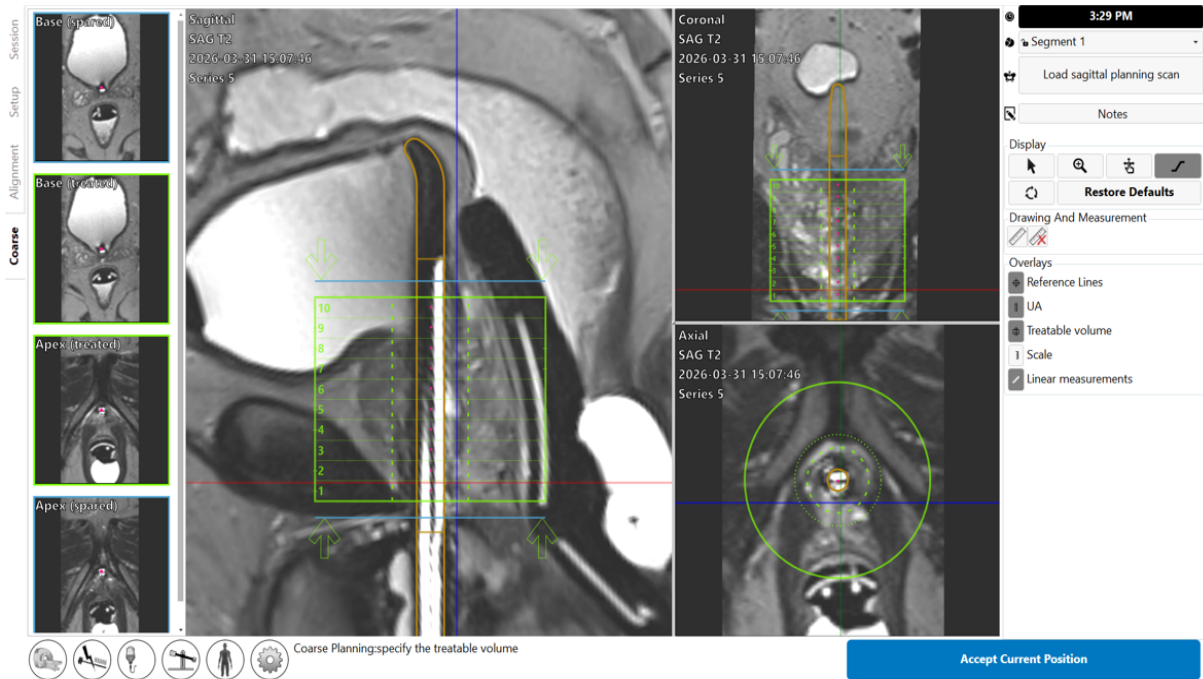

Figure 35: Coarse Planning workspace in TDC software
**Radiologist:** The treatable volume is displayed as a green rectangle on the sagittal and coronal views and a green circle in the axial view. Regions beyond the light blue line, displayed 4 mm from the bottom and top edges of the green rectangle on the sagittal and coronal views, are anatomical regions expected to be spared fully from thermal coagulation (*Figure 35*).
**NOTE:** When determining where to position the UA, identify the external urinary sphincter. If the external urinary sphincter cannot be identified, it should be considered immediately adjacent to the prostate apex. Place the light blue line (below the first element) on the external urinary sphincter (*Figure 35*).